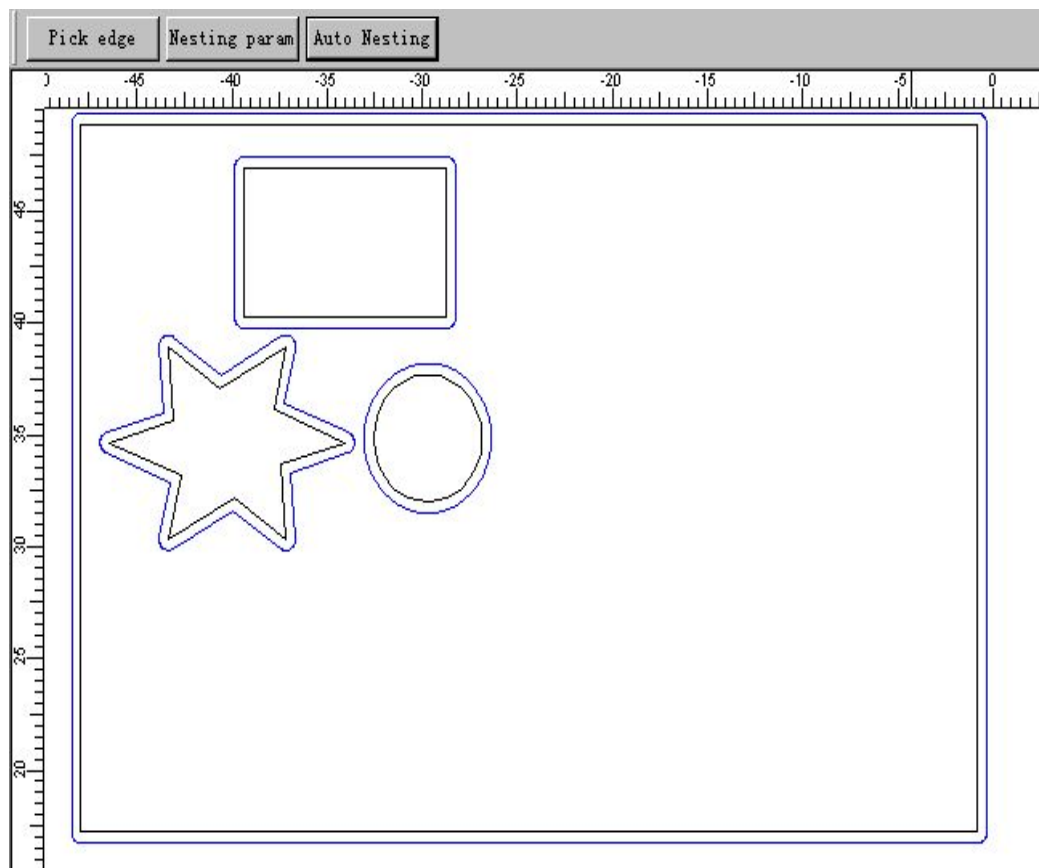

Figure 7-1 Nesting multi part
**Step 1.** Draw the figures need to nest and the border that contain the figures, and then click the menuitem **Special—Nesting—Nesting multi part**. The interface will be showed as Figure 7-1